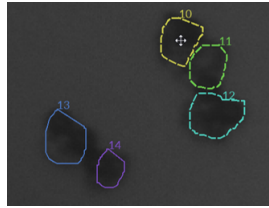

Figure 11.22: *Microscope View, multi-select*
- **Select multiple ROIs** - Press *Ctrl* while selecting a second+ ROI, such that the outline of each selected ROIs becomes dotted (Fig. 11.22). This selection allows multi-ROIs deletion or displacement.